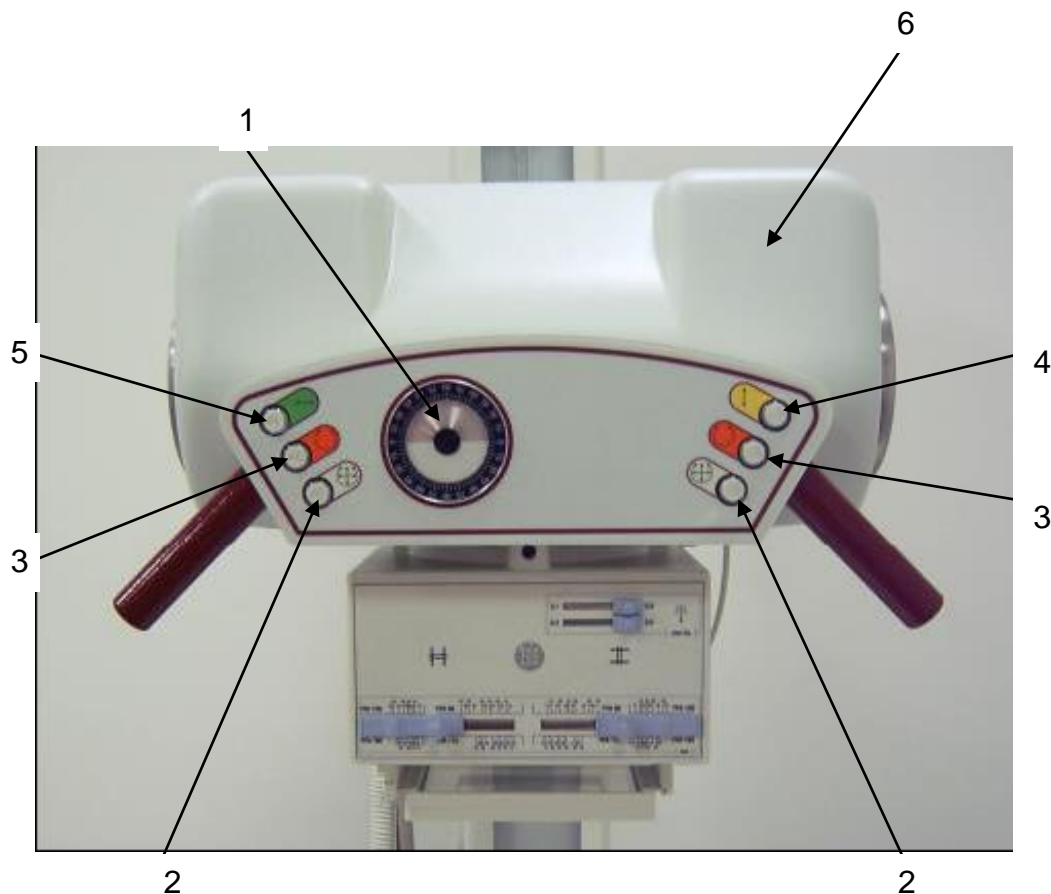

**Figure 2-1**
1. 1 Control arm (see fig. 2-1/1)
2. 2 Collimator (see fig. 2-1/2)